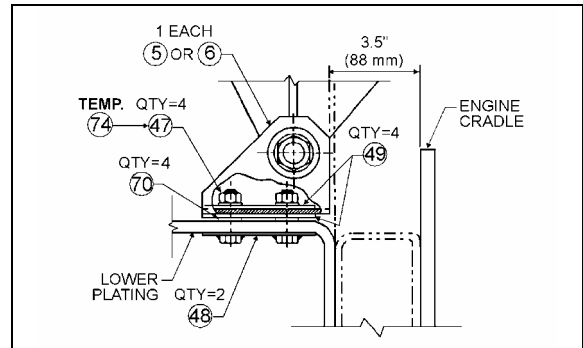

FIGURE 15: ANGLE SUPPORT 05014
1. Install both attachment assembly plates (P/N 051779) (48, Fig. 15) through lower plating and secure with four spring nuts (P/N 500666), (70, Fig. 15). Then install one spacer (P/N 050705), (49, Fig. 15) on each spring nut at both anchoring locations (Fig. 15).
some vehicles only). Vertical displacement of the fan clutch is made possible by slots at the base of the fan clutch (on some vehicles only) or by shimming with additional spacers at anchoring locations. Temporarily secure assembly with two nuts (P/N 500709), (74, Fig. 15) at both anchoring locations.
- Check alignments again (steps 2, 3 & 4) then replace temporary anchoring nuts (P/N 500709) (74, Fig. 15) with four nuts (P/N 500714) (47, Fig. 15) and tighten using a wrench.